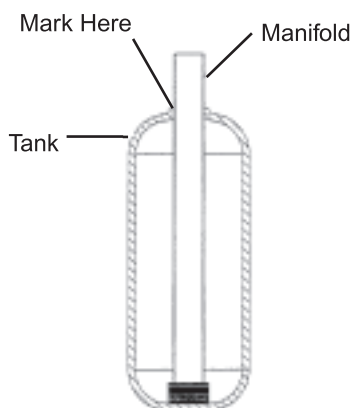
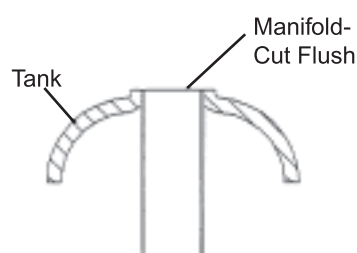

Figure 3. Manifold assembly.
Figure 4. Installing laterals.
3. Insert the manifold assembly into the tank. Use a straight edge and pencil to make a straight line on the manifold assembly flush with the top of the tank. See Figure 3 and Figure 4.